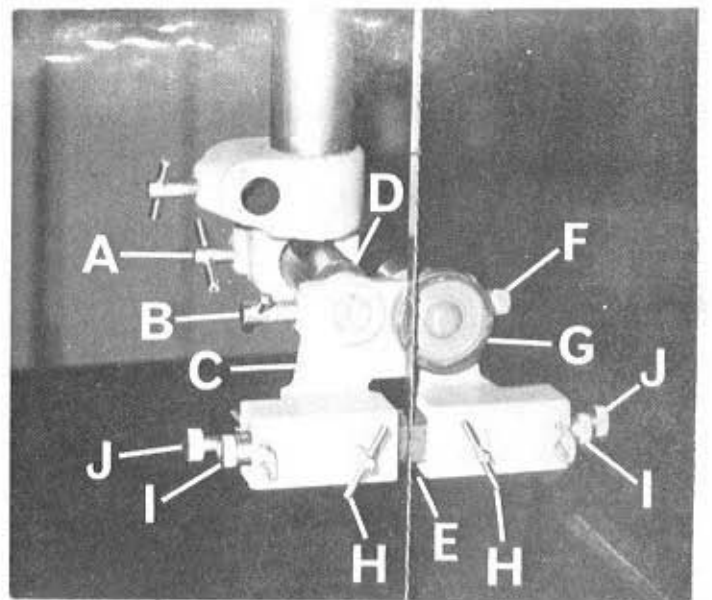
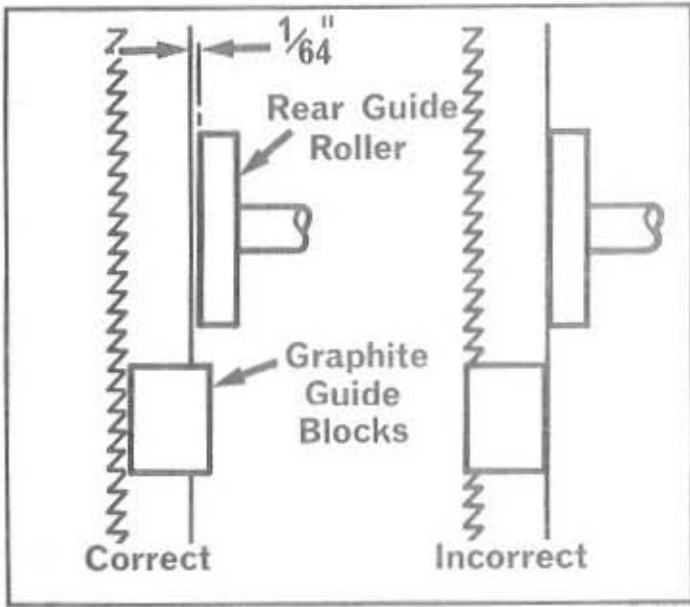

FIG 7
FIG 8
3. Loosen locking screws "A" and "B", FIG.7, then holding guide unit "C" parallel to table top, proceed to revolve eccentric shaft "D" until sawblade is central in gap "E"
Lock screw "B" then move guide unit either forward or back until saw teeth protrude slightly from front graphite support blocks as shown in FIG.8. When positioned correctly, relock screw "A", FIG.7, ensuring guide unit is parallel to table top.
4. Loosen locking screw "F", and move rear guide roller "G", FIG.7. to position shown in FIG.8. When set correctly, relock screw "F".
5. Loosen locking screws "H", FIG.7, then set graphite support blocks just clear of sawblade by adjusting screws "I", see FIG.8. (When wide sawblades are used, the rear graphite support blocks should also be adjusted just clear of sawblade by adjusting screws "J".) When set, lightly lock screws "H".